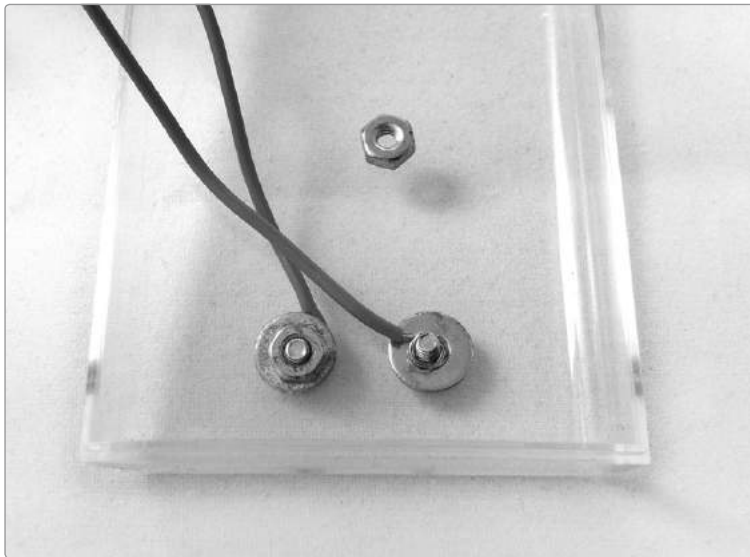

FIGURE 6-19: *Body contacts partially and fully installed, as viewed from the inside of the case. Note that the washer is on the inside of the case.*
Step 19 Now it's time to mount everything in the case. Slip the 4-40 machine screws through the 1/8-inch holes from the outside, place a washer on each screw, wrap a lead around each screw, and then tighten the nut down, as shown in Figure 6-19. The easiest way to tighten these screws is to hold the nut with your needle-nose pliers and use a screwdriver to turn the screw from the outside.